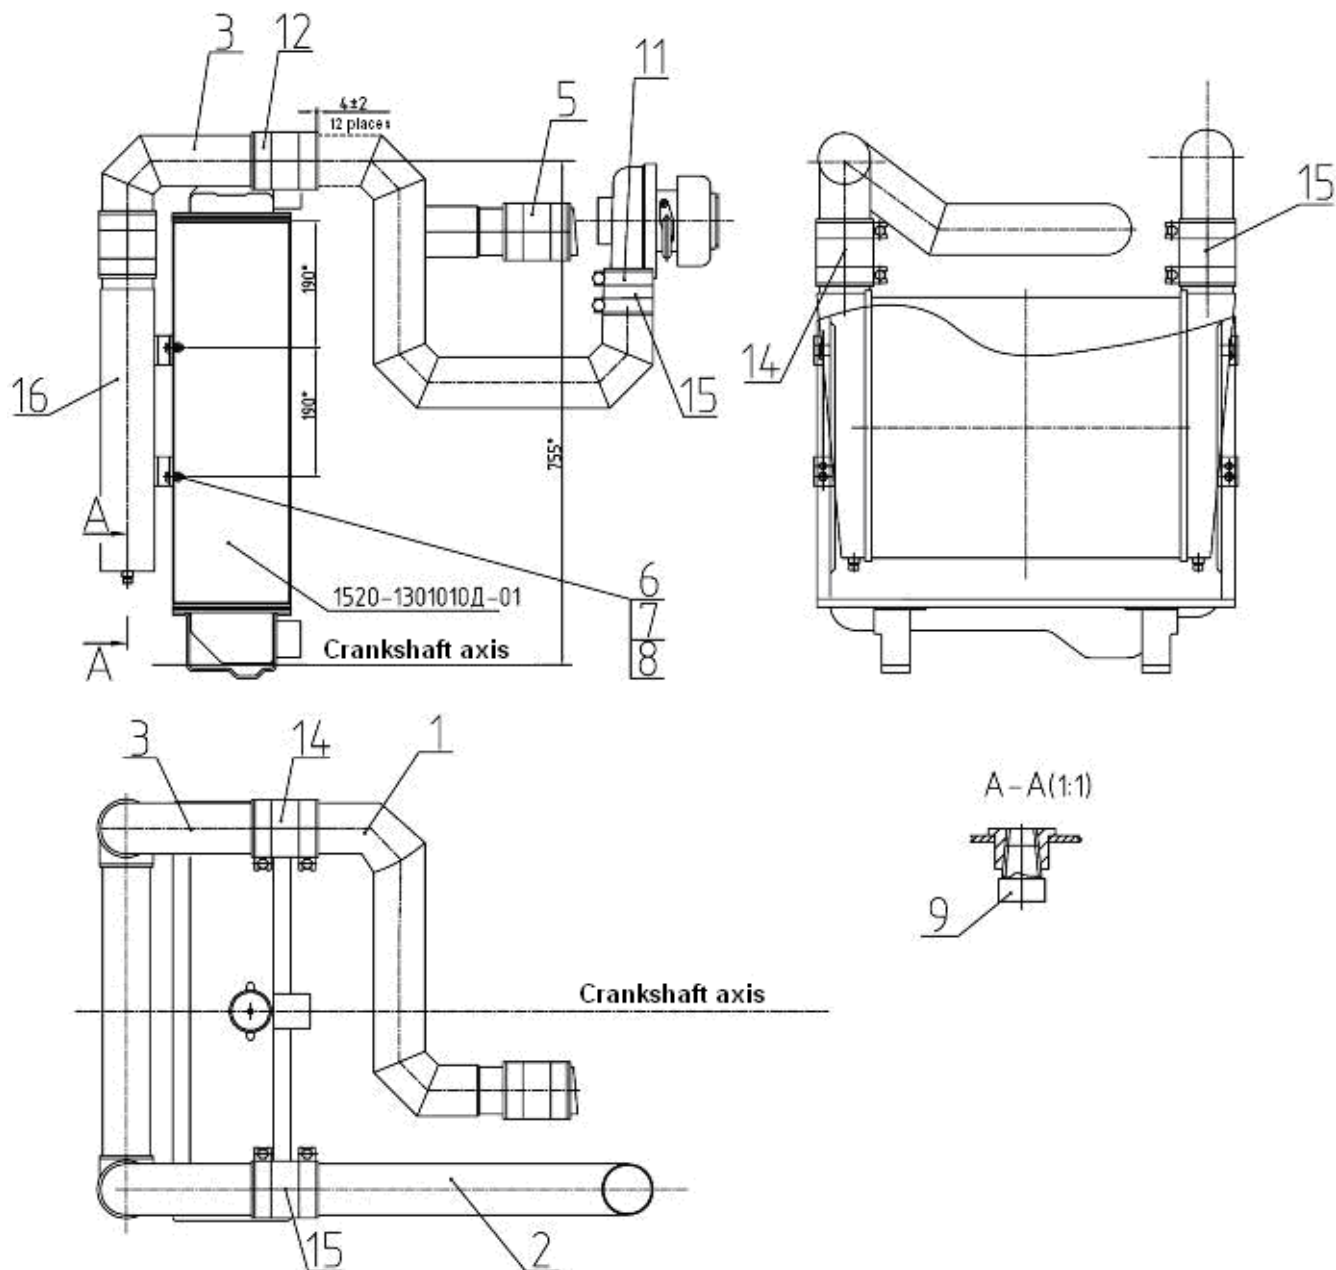

Figure 3.12
- a) loosen collars 12 (Figure 3.12) and shift heat-resistant silicon branch pipes 5, 14, 15 off air conduits 1, 2, 3 and supercharged air cooler 16;